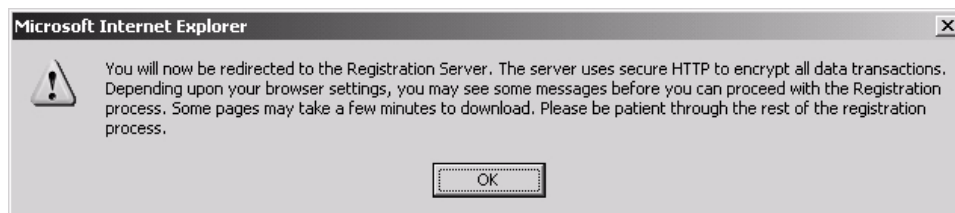

Figure 35: Accessing the registration server
25. Click **OK** on the pop-up dialog shown in Figure 35 to access the registration server.